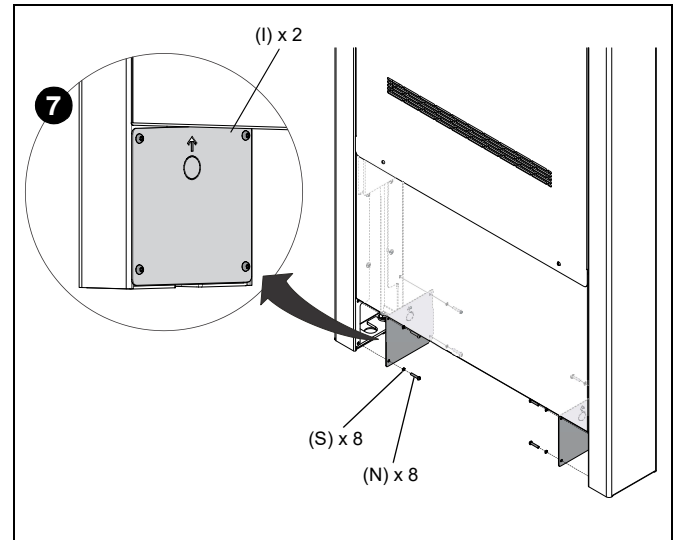

Figure 19
7. Install two lower covers (I) over the openings at the base of the kiosk frame using eight 10-24 x 1" screws (N) and O-rings (S). The arrows on the panels point up. (See Figure 19)